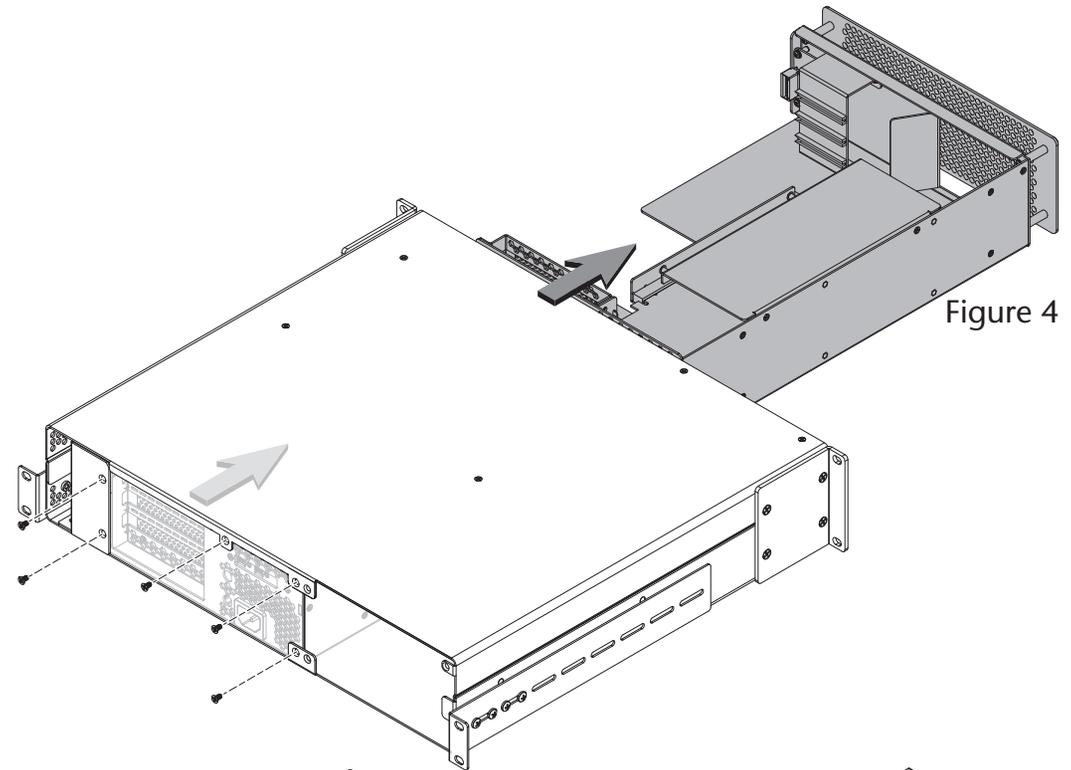

Figure 4
2. Using a Phillips screwdriver, remove and set aside the four screws securing the Echo chassis' inner assembly to its rackmount enclosure (Figure 4).
3. Remove the inner assembly from the enclosure by gently gripping the faceplate by its edges and pulling (Figure 4).